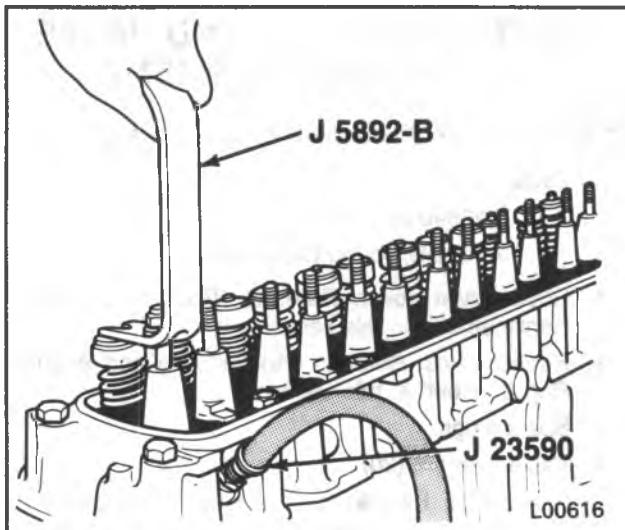

Figure 6 — Compressing The Valve Springs
4. Valve keepers (20).
- Install a rocker arm nut (figure 6).
- Use J 5892-B to compress the valve spring (figure 6).
5. Rotator (21), shield (22) and spring (26) with damper (25).
6. O-ring seal (23).
7. Seal (24) (intake valve only).
1. New seal (24) (intake valve only). Install the seal over the valve stem and seat it against the head.
2. Spring (26) with the damper (25), shield (22) and rotator (21).
3. New O-ring seal (23) and valve keepers (20).
- With air pressure applied to the cylinder with J 23590, compress the spring with J 5892-B (figure 6).